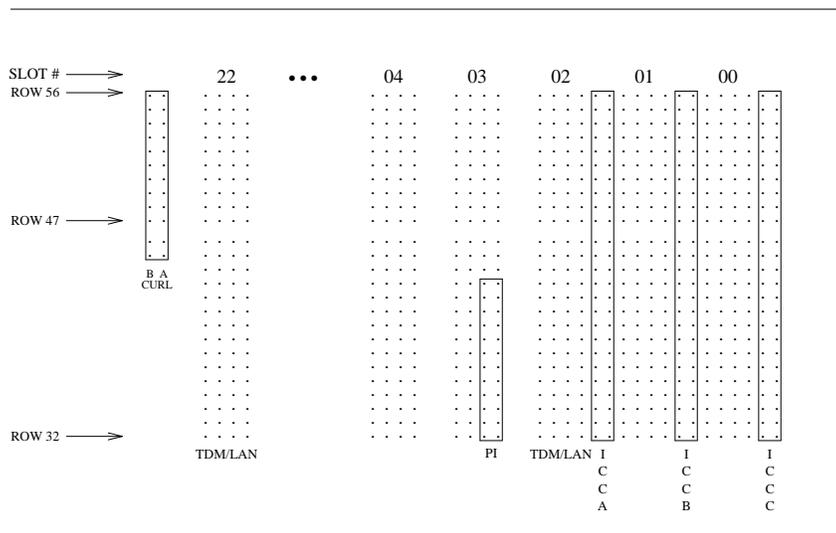
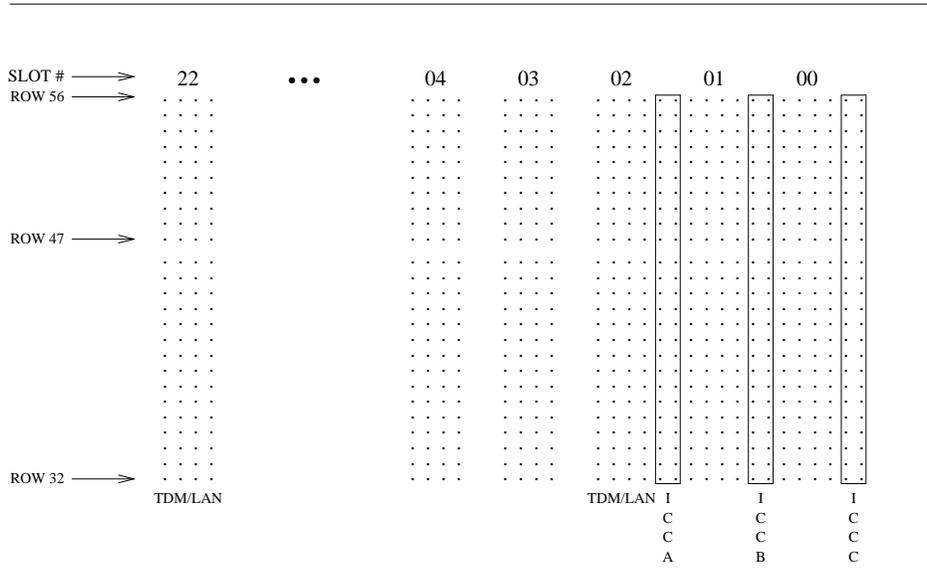

Figure 2-11. ICC Pin-Field Blocks on J58890L-1 L5 Enhanced Control Cabinet
Figure 2-12. ICC Pin-Field Blocks on J58890M-1 L5 or J58890M-2 L7 Enhanced Duplicated Control Cabinet
2. Connect the ICC cables as shown in Table 2-2 and Figure 2-11 and Figure 2-12.
3. On the "A" carrier, verify the 982LS current limiter (CURL) is properly connected to the pin-field block marked "CURL" (see Figure 2-11). The CURL's components should be on the left side as viewed from the rear.